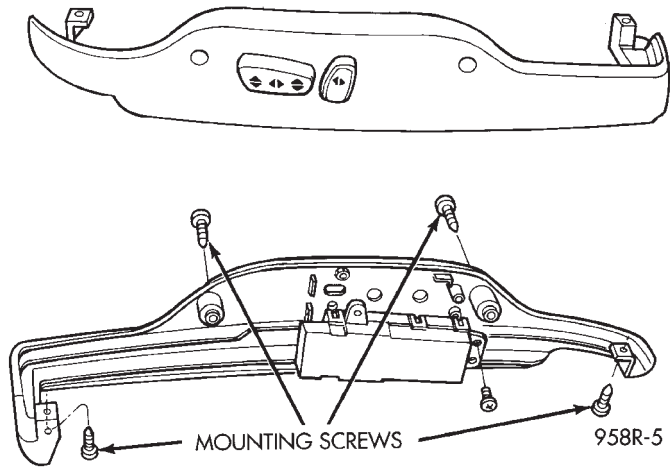

Fig. 2 Switch Removal
- (1) Remove switch from mounting position (Fig. 2).
- (1) Remove left cushion side shield (Fig. 2).
- (2) Disconnect wiring from switch.
- (3) Remove the seat and recliner switch knobs.
- (4) Remove attaching screws and switch from bezel.